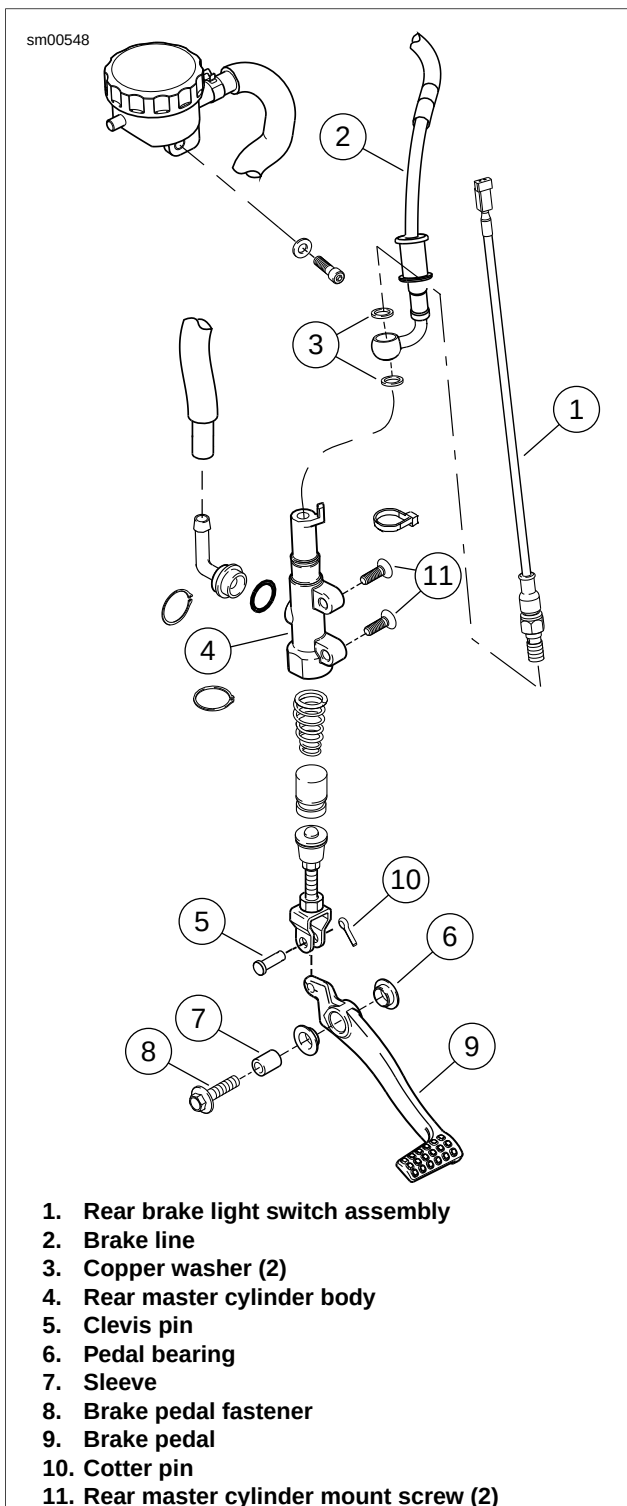

Figure 2-56. Rear Master Cylinder Assembly: Ulysses
7. See Figure 2-56. Remove rear brake light switch (1) (metric) and two copper crush washers (3) to detach brake line (2) from master cylinder (4). Discard copper crush washers.
1. See Figure 2-56. Install master cylinder (4) onto footpeg mount with fasteners (11). Tighten to 72-96 **in-lbs** (8-11 Nm).
2. Install rear brake switch (1), brake line (2) and **new** copper crush washers (3). Tighten to 16-20 ft-lbs (22-27 Nm).
2. Install rear brake switch (1), brake line (2) and new copper crush washers (3). Tighten to 16-20 ft-lbs (22-27 Nm).